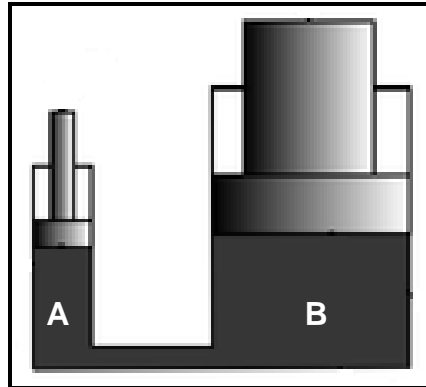

FIGURE 1.16
- D Gearbox (1)
- 1.16 FIGURE 1.16 below represents a hydraulic system. What is the comparison between the fluid pressure at piston **A** and the fluid pressure at piston **B**?